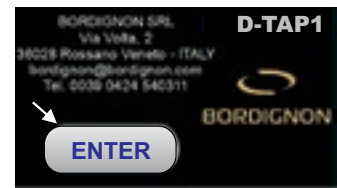

FIG. 5
1. Turn general switch B (FIG. 1) on and wait a few seconds until the display shows the first page (FIG. 5);